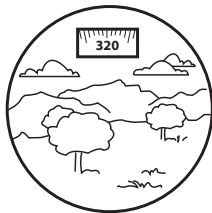

Figure 5-3. View Through Installed Compass
4. To view the compass through the PVS-7, grip the compass with index finger on top and thumb on illumination button on the bottom (Figure 5-1, Item 4). Press button slightly with thumb until proper brightness is obtained. The image should appear as shown in Figure 5-3.